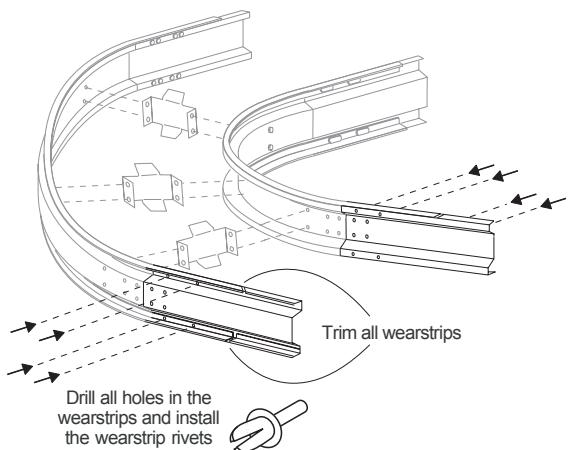

Figure 11
7. Trim the ends of the horizontal bend wearstrips to form the proper gap and angle in relation to the ends of the straight section wearstrips. Drill all the holes for the wearstrip rivets in the wearstrips. Then install the wearstrip rivets to finish the job. Refer to *Figure 11*.